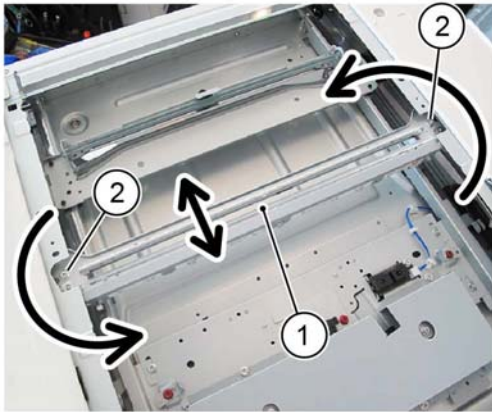

Figure 2 Full rate carriage removal
4. Lift out the full rate carriage from the scanner assembly, **Figure 2**:
- a. Move the full rate carriage (1) to the cutouts in the frame.
- b. Remove two screws (2).